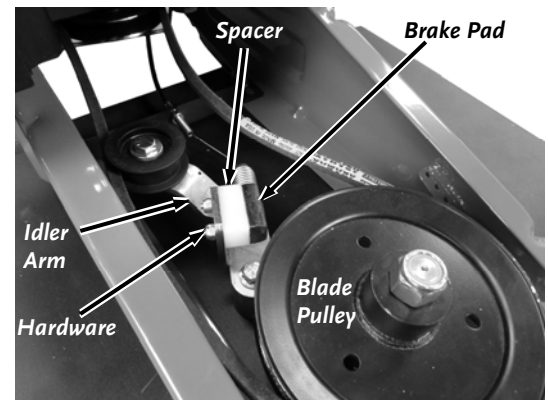

Figure 29
4. Remove the Brake Pad and Spacer using a 3/8" Wrench for the Nuts and 1/8" Allen Wrench for the Bolts (**Figure 29**).